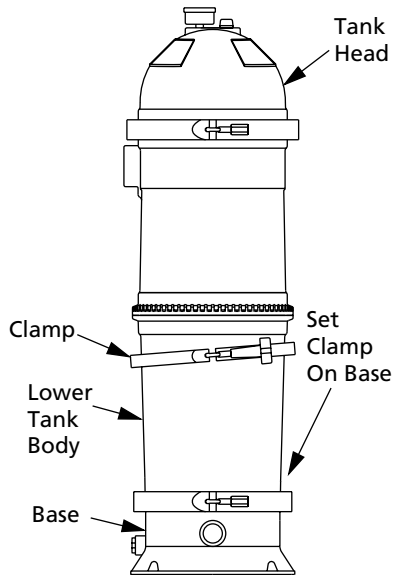

Figure 5A – 4RK12
- Remove clamp fastener from clamp indicated in Figures 5A and 5B.
- Loosen indicated clamp (See Figure 5). Remove clamp by lifting it straight up over tank or dropping it onto filter base (See Figures 5A, 5B, 6, and 7, below).